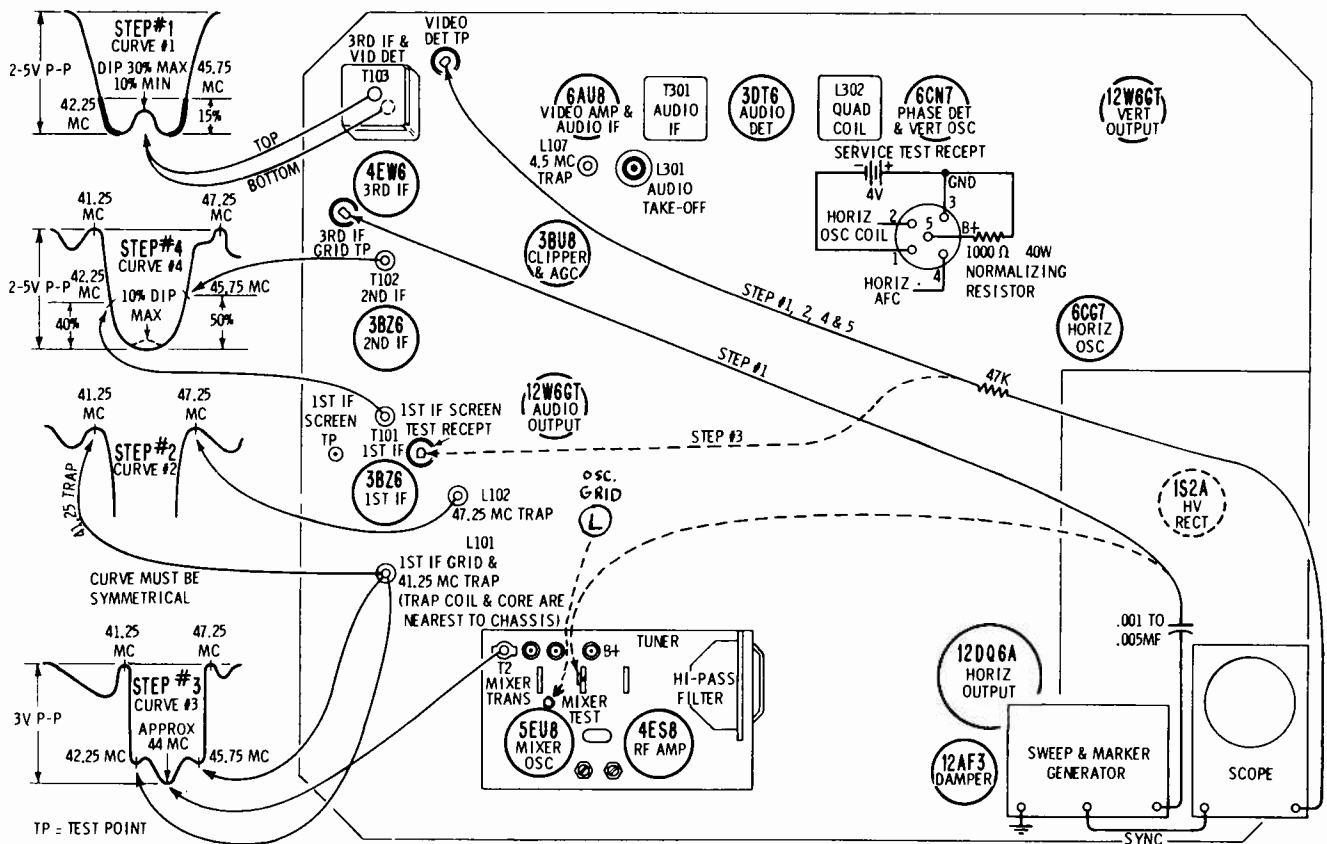

FIGURE 5. VIDEO & SOUND IF ALIGNMENT DETAIL
3. Disable oscillator by shorting point "L" located near oscillator tube V-2, to chassis See Figure 5.
10. Refer to Video & Sound IF Alignment Detail for component and test point locations (Figure 5).
- Refer to Video IF & Mixer Alignment Detail for coil and test point locations (Figure 5).